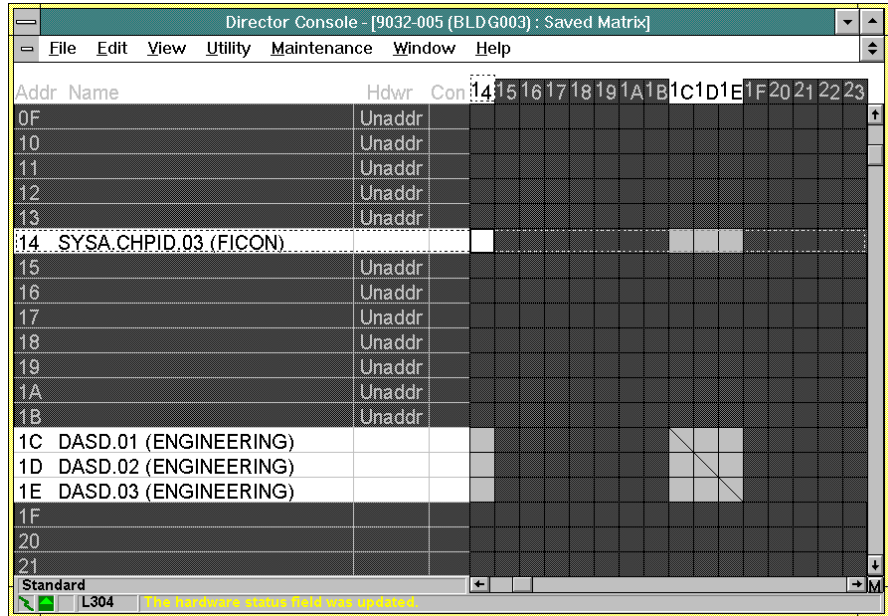

Figure 10-12. Matrix Window (LPAR Example)
16. Type the operator authorization password assigned in step 4 and click the *OK* button. The *Matrix* window reappears as shown in Figure 10-12 on page 10-14.